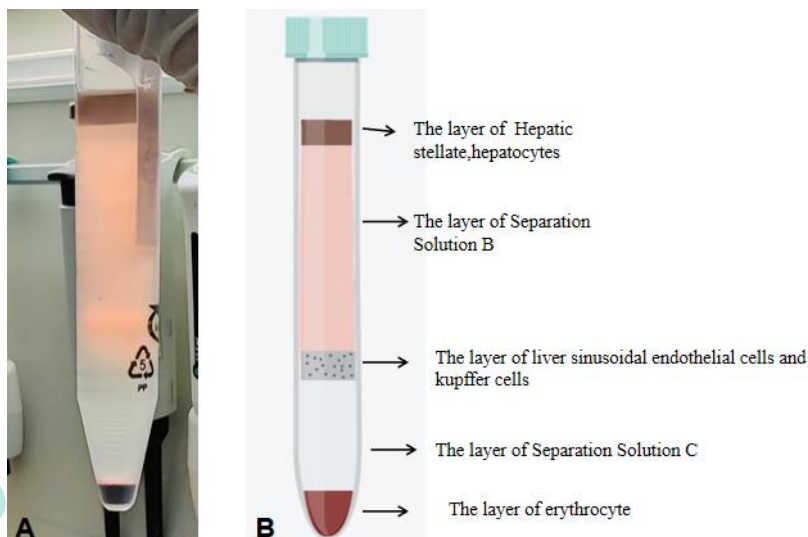

Figure 4. Reference image of cell suspension after centrifugation with Separation solution
- (6) After stratification, centrifuge tube at 900 g for 15 minutes (set the acceleration to 1 and the decelerate to 0); After centrifugation, the liquid can be seen to be divided into 5 layers, from top to bottom: the top layer is approximately 2-5 mm thick hepatic stellate cells and hepatocytes layer, the second layer is approximately 6 mL Separation solution B, the third one is approximately 2-3 mm thick, liver sinusoidal endothelial and kupffer mixed cells (hereinafter referred to as the white membrane layer), the fourth is approximately 3 mL Separation solution C, and the bottom layer is approximately 2-5 mm thick red blood cell precipitation (as shown in Figure 4).
- (7) Discard the top layer of cells and use a 1 mL pipette tip above the white membrane layer. Carefully remove the cells from the third layer of white membrane layer into a new sterile 15 mL centrifuge tube, add 5 mL of **Specialized Washing Solution For Mouse Kupffer Cells** to resuspend the cell suspension, centrifuge at 400 g for 5 min, discard the supernatant, and retain the precipitate.
- (8) Resuspend 5 mL of **Complete Culture Medium for Mouse Kupffer Cells** and seeding it into a new 6 cm culture dish.
- (9) Incubate in a 5% CO₂ incubator at 37°C for 25 minutes, then transfer the supernatant to a new culture dish. Add 5 mL of fresh **Complete Culture Medium for Mouse Kupffer Cells** to the original culture dish and continue culturing at 37°C for 25 minutes.
- (10) Transfer the transferred supernatant again to a new dish, add fresh complete culture medium to the original dish, and repeat this transfer process 1-2 times.
- (11) After differential adhesion, most of the kupffer cells exist in the dish seeded in step 8, while the rest of the dishes only have a small or partial amount of kupffer cells, which can be selected according to the specific cell purity and cell quantity.
- (12) After 48 hours of cultivation, collect the target cells and rapidly digest them with 0.25% trypsin for about 1 minute. Discard the first digested cells, which may contain loosely adherent liver sinusoidal endothelial cells. Gently rinse the bottom of the dish with a **Specialized Washing Solution For Mouse Kupffer Cells**, discard the solution, add fresh complete culture medium, and change the medium every 2-3 days thereafter.
- (13) Cell digestion: It is generally not recommended to perform digestion and passage operations on kupffer cells. If it is necessary to transfer the cells in the original dish, please follow the following steps.